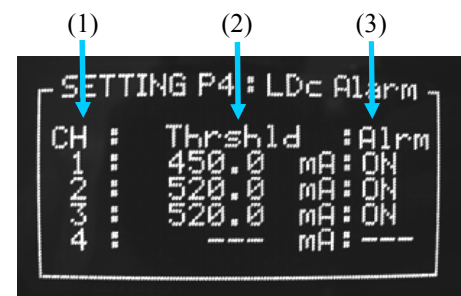

Fig.11 SETTING P3 (e.g.)
6.3.3 Page3: LDcAlarm details (Fig.11)